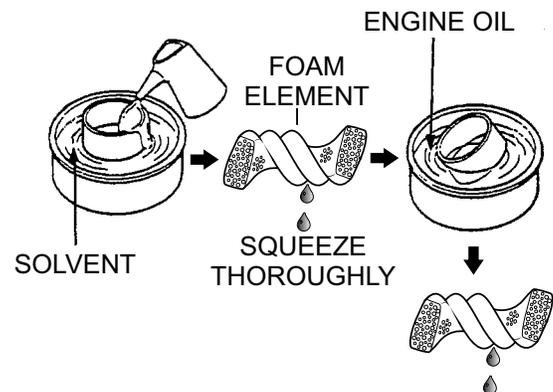

Figure 15. Cleaning Foam Element
3. Clean foam element (Figure 15) in warm, soapy water or non-flammable solvent. Rinse and dry thoroughly.